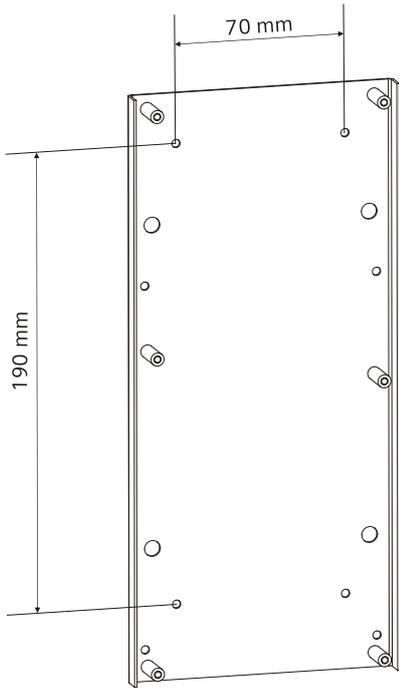
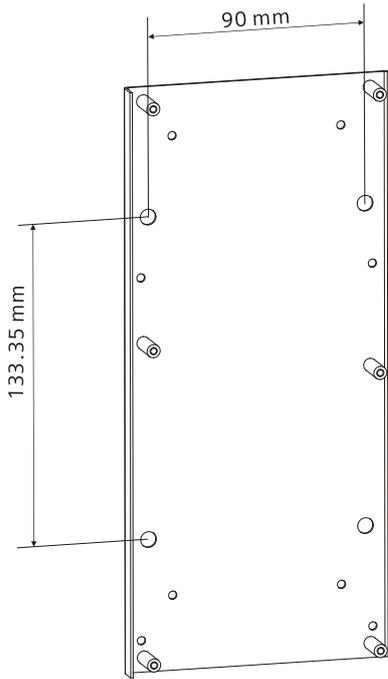

Fig.2 Installation size for wall-mounted
Fig.3 Installation size for rack-mounted
- Use four screws to fix the metal board of FTM1811 in controller/electric cabinet or on the wall (refer to Fig.2/Fig.3).